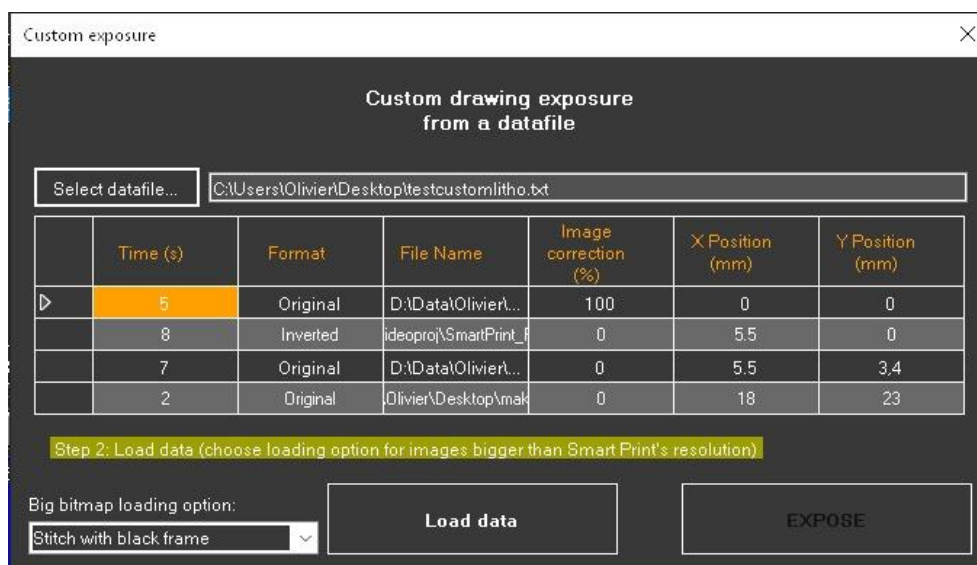

Figure 47 – Custom exposure: parameter file loaded
- If the parameter file contains no mistakes (drawing not found, unknown characters, etc.), the file will load on the window (Figure 47)